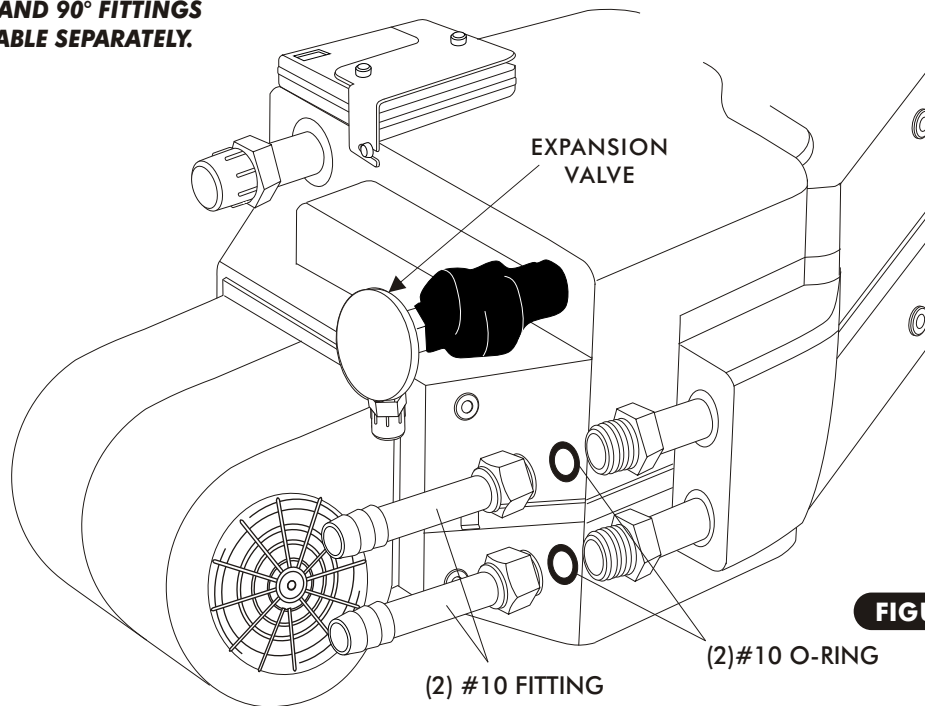

FIGURE 2
- ☐ ON A WORK BENCH, INSTALL HEATER FITTINGS WITH PROPERLY LUBRICATED O-RINGS (SEE FIGURE 2 & 2a, BELOW)